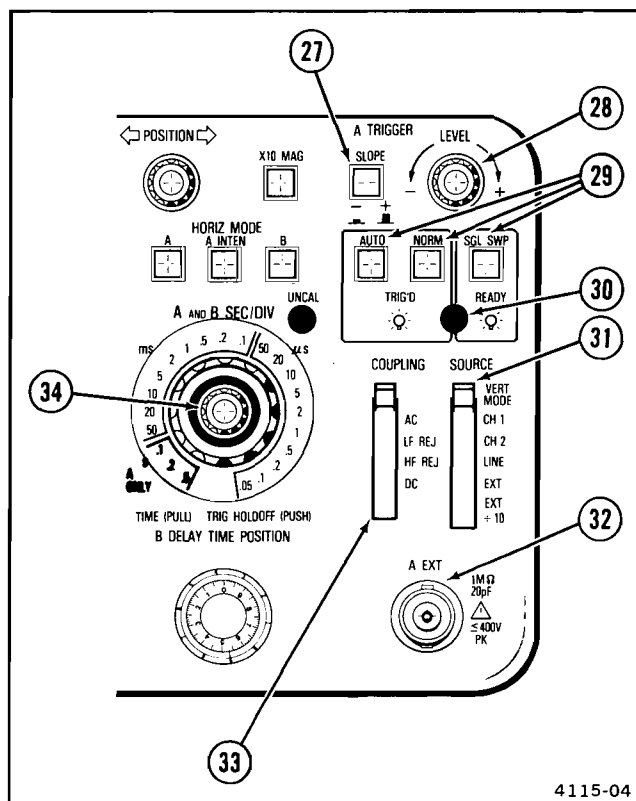

Figure 2-6. Trigger controls, connector, and indicator.
Refer to Figure 2-6 for location of items 27 through 34.